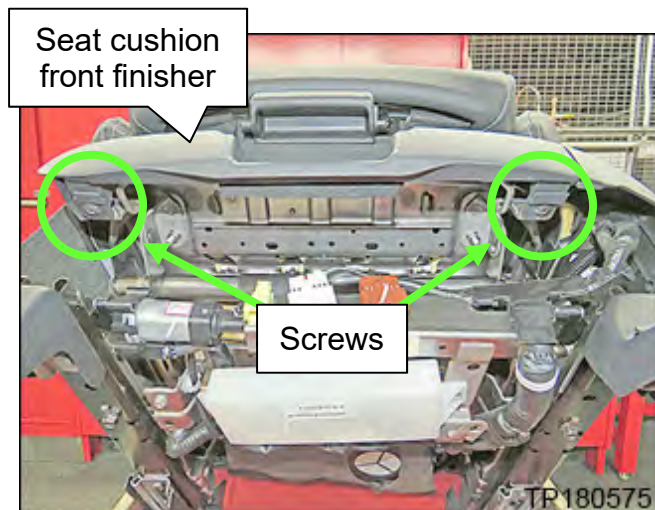

Figure 1
4. Remove both of the seat cushion front finisher screws shown in Figure 1.